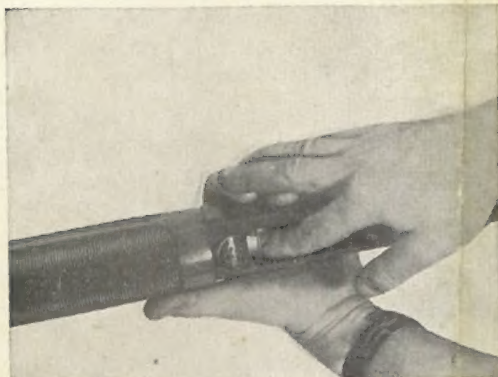
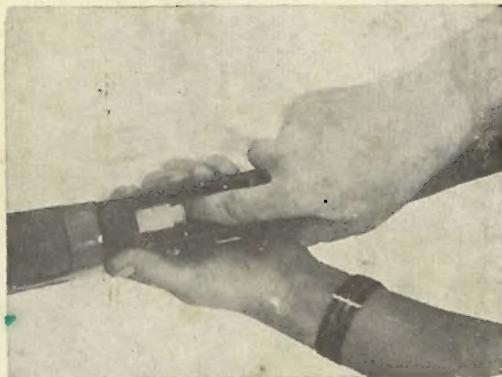

Fig. 4
Fig. 5
2. Turn the gun to the loading position (trigger guard facing up as shown in the illustration, Fig. 4). Press the carrier latch and exercise a slight pressure with the index finger on the magazine latch placed on the inside left wall of the receiver. The shell will be pushed out by the magazine spring. Repeat this operation until the magazine is completely empty, Fig. 5.